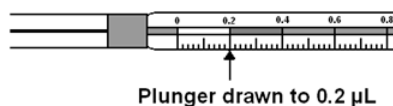

Figure 4.2.2. Syringe with liquid drawn to the 0.2 μL mark.
- b. Draw up approximately 0.2 μL of liquid. See Figure 4.2.2. It is not critical that the volume be exactly 0.2 μL ; a tiny bit more or less volume is all right.